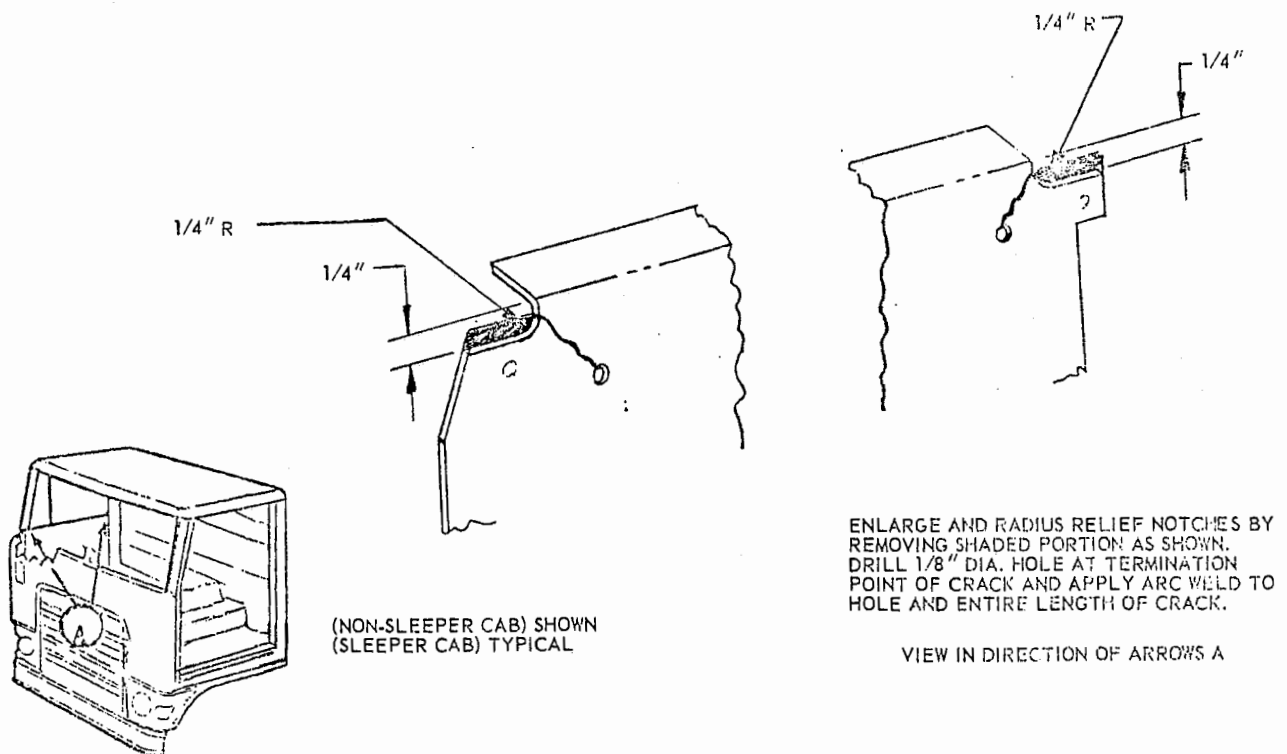

Figure 5
3. Enlarge and radius the front and rear belt relief notches on the door as shown in Figure 5.